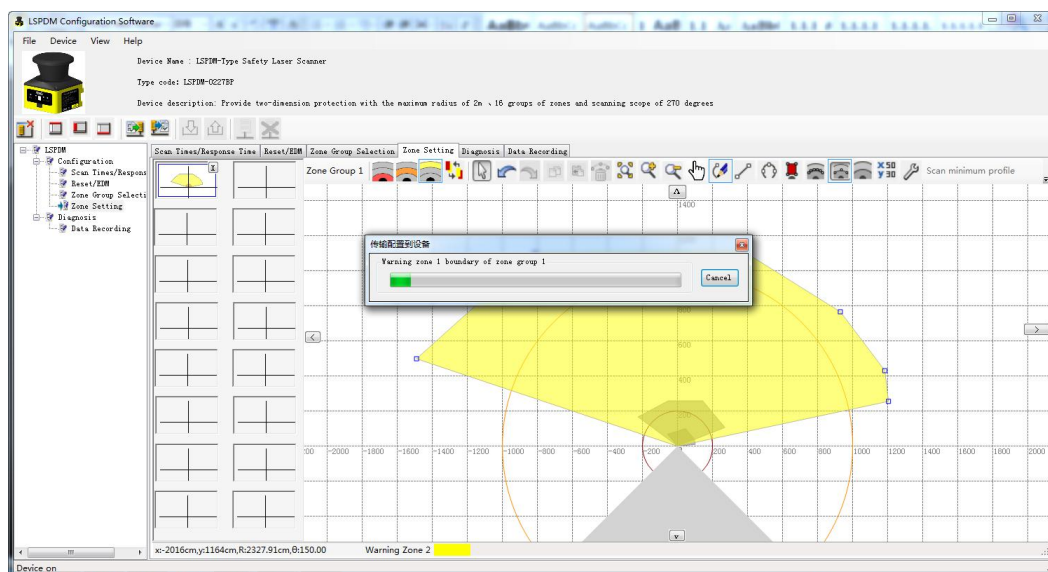

Fig 3.2.12 Transmit configuration to LSPDM
(1) Click tool bar  (Transmit configuration to LSPDM) to transmit configuration information to LSPDM. The transmitting window is shown as Fig 3.2.12. The digital tube of scanner indicator window displays